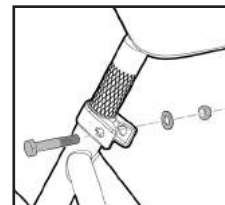
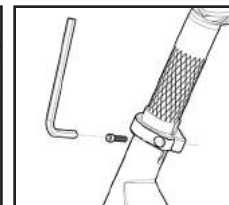

Figure 10
Figure 11
If your bike has a standard seat clamp (see Figure 10), use (B) an Adjustable Wrench(es) to tighten the nut securely. If your bike has a bolt on seat clamp (see Figure 11), use (C) a 4, 5, or 6 mm Allen Wrench to tighten the bolt securely. The seat should not be able to move back and forth, up and down, or side to side with the seat clamp tightened.